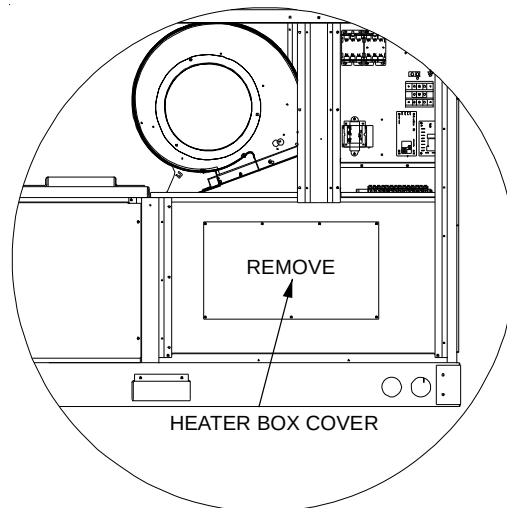

Figure 1
5. Locate heater box. Remove screws holding the heater box cover in place (Figure 1).